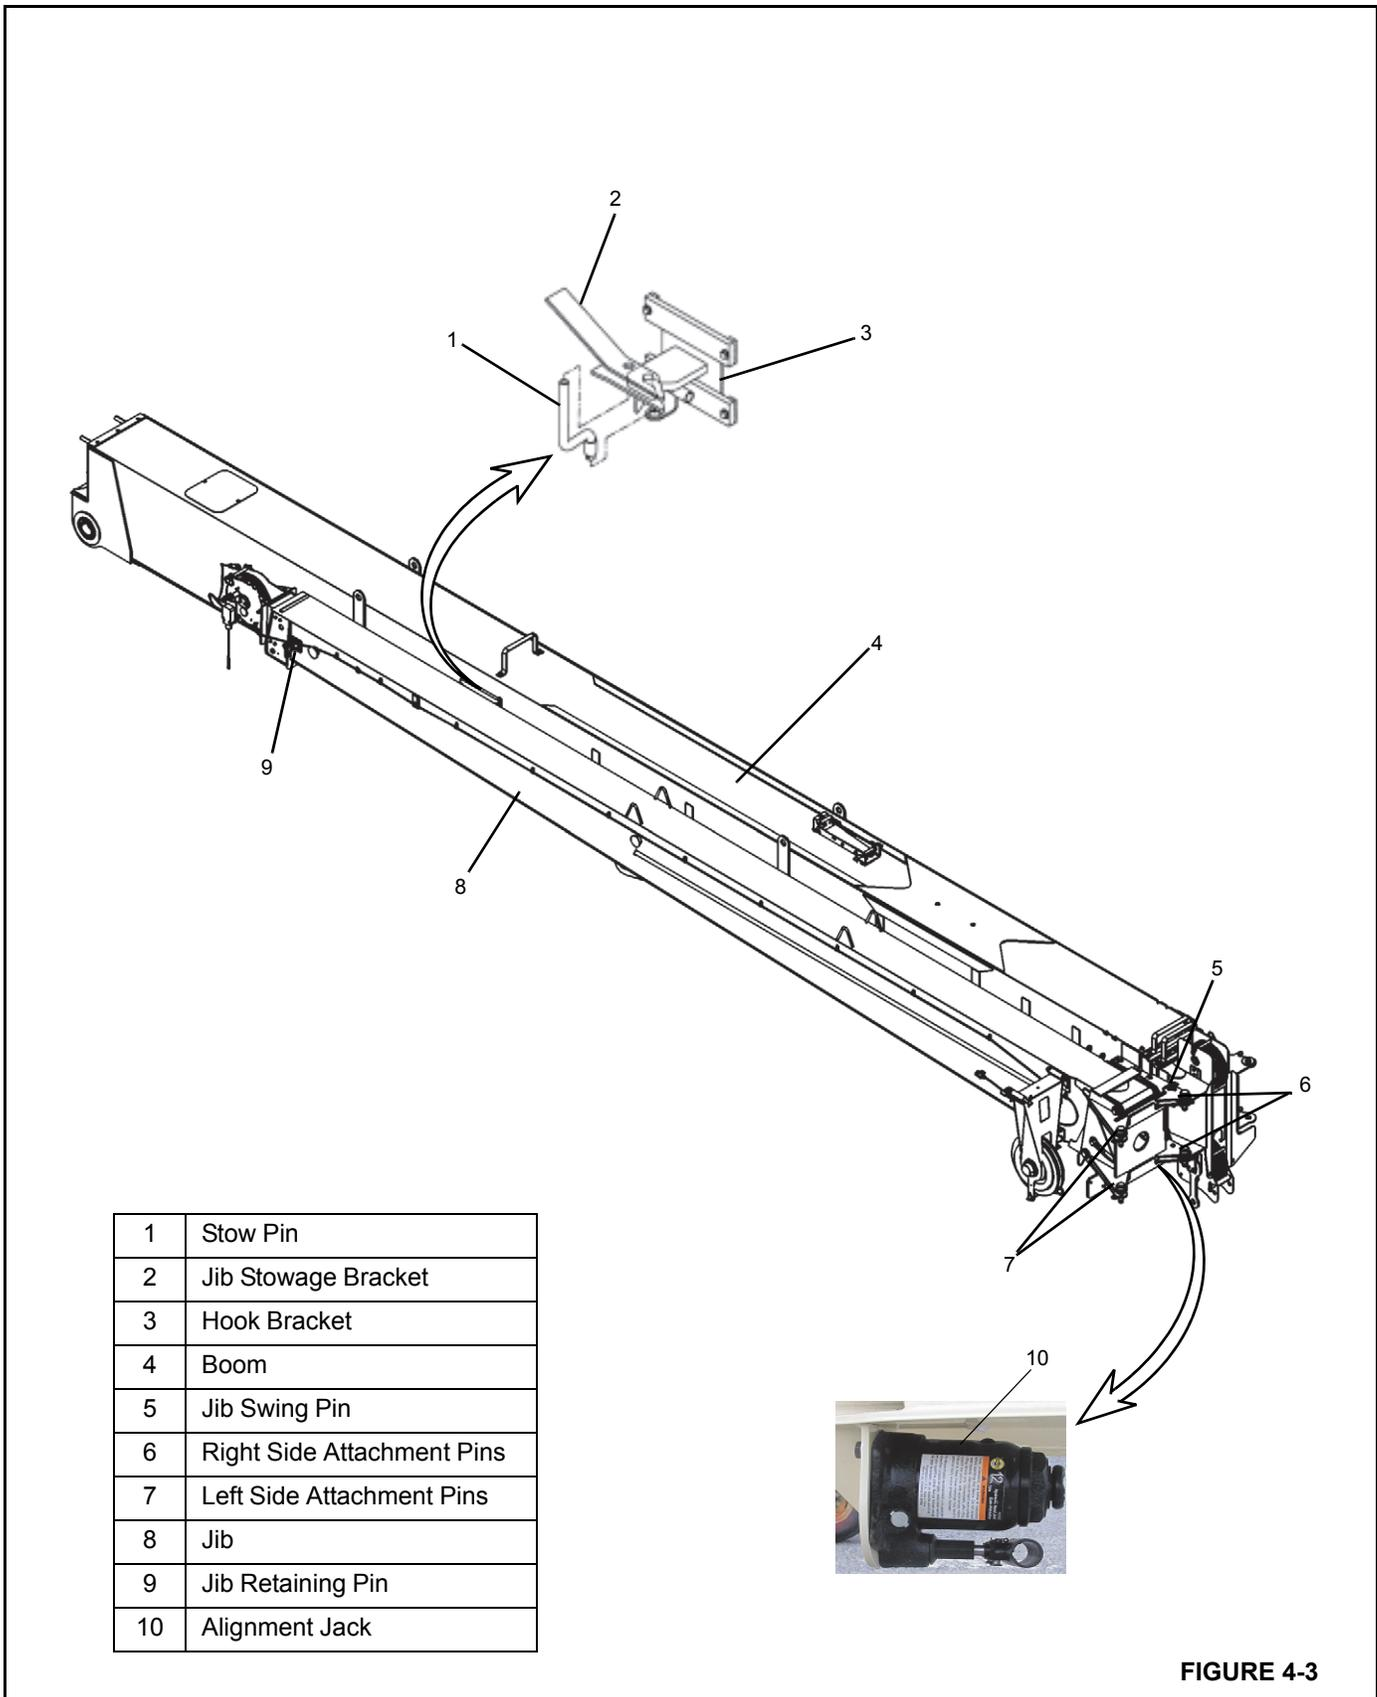
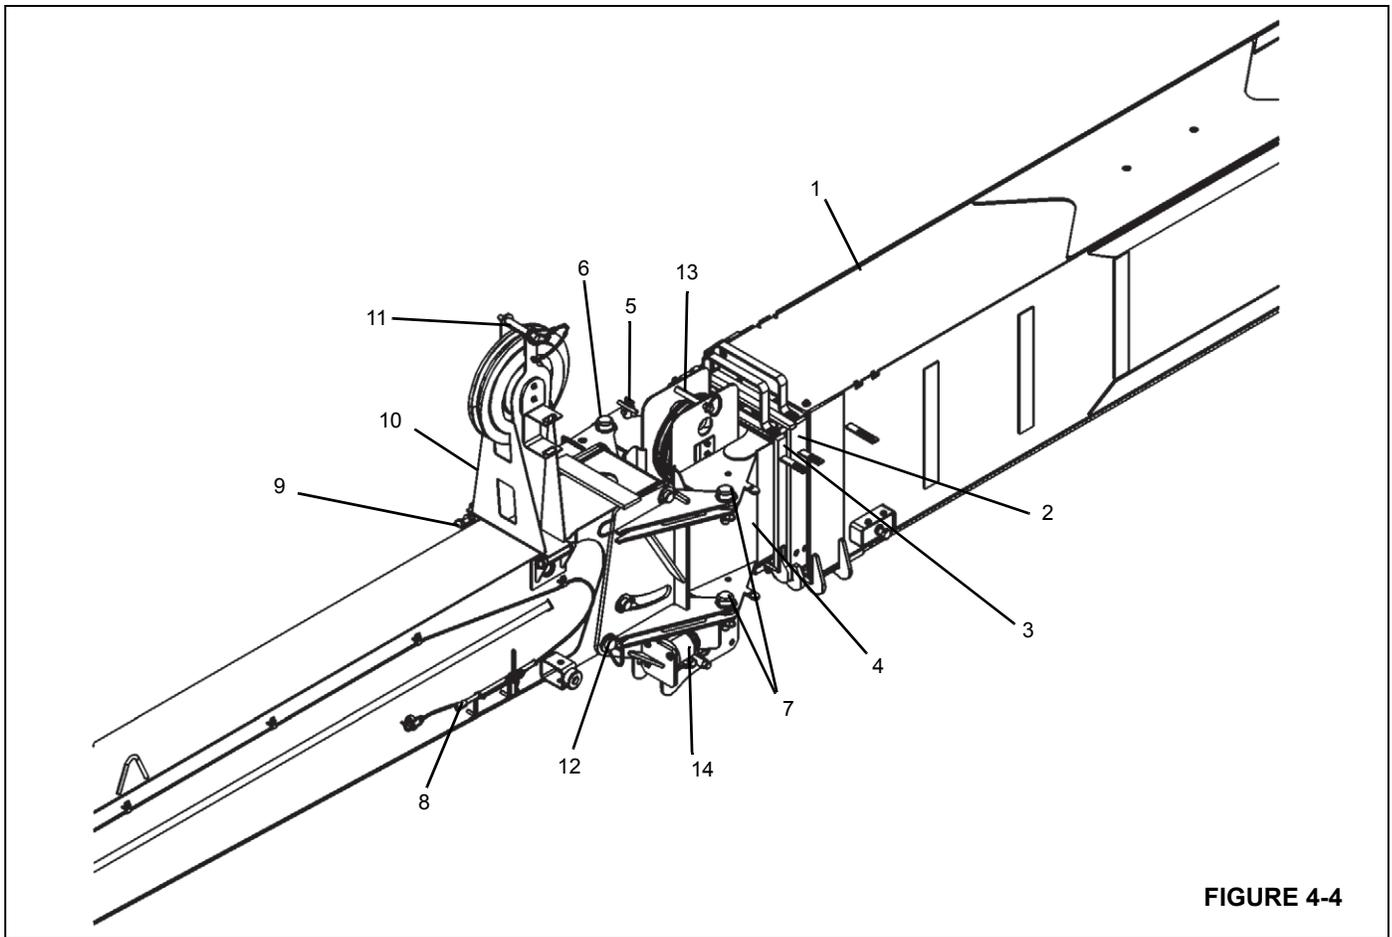

FIGURE 4-3
FIGURE 4-4
6. Ensure jib is stowed correctly (Figure 4-3):
- a. Removal of right side attachment pins (6), without proper installation of stow pin (1) and jib swing pin (5), may allow jib to fall off.
- b. Extending boom with jib stowed and failure to remove right side attachment pins (6), will damage unit upon extension.
7. Only swing jib into working or stowed position when boom is horizontal, stow pin (1, Figure 4-3) and jib swing pin (5) are removed and right side attachment pins (6) are in place. Jib could swing uncontrollably if boom is not horizontal.
12. Do not extend/retract boom unless boom is horizontal when stow pin (1, Figure 4-3) and jib swing pin (5) are removed during stowing or unstowing procedures.
1. Jib retaining pin (9, Figure 4-3) must always be installed when operating.
3. Extendable section may slide out of 1st section jib when jib retaining pin (9, Figure 4-3) is removed. Keep personnel clear of area.
2. Using lift function, lower boom so that attachment pins (6 and 7, Figure 4-3) are easily accessible from the ground.
4. Install right side attachment pins (6, Figure 4-3) in upper and lower jib lugs, secure with retainer spring clips. These pins are used as a pivot point to swing jib into the deployed position.
5. Locate the stowed position of attachment pins (7, Figure 4-3). If in jib attachment holes or boom sheave case jib holes, remove pins from storage location.
6. Remove jib swing pin (5, Figure 4-3) from top lug of jib.
7. Remove stow pin (1, Figure 4-3) and stow in hook bracket (3), secure with spring clip.
10. Using telescope function, slowly extend boom approximately 30 cm 12 in. This procedure will pull the jib out of the hook bracket (3, Figure 4-3).
12. Install upper left attachment pin (7, Figure 4-3) and spring clip. A slight hammer strike may be necessary to install pins. Always use proper eye protection during this step.
13. Use the alignment jack (10, Figure 4-3) to align lower left side attachment pin (7, Figure 4-3).
- a. Remove the jack handle (8, Figure 4-4) from the boom stowage bracket and check that the jack release valve is closed.
- b. Extend the alignment jack (10, Figure 4-3) so that the lower left pin holes (7, Figure 4-3) are aligned.
- c. Install the lower left side attachment pin (7, Figure 4-3) and spring clip.
- d. Open the jack release valve and retract the jack (10, Figure 4-3).
18. Install jib swing pin (5, Figure 4-3) and spring clip into jib lugs.
19. For manually extendable jib, pull jib retaining pin (9, Figure 4-3), and extend second section out by pulling on sheave case. The second section jib, as it extends, will hit a mechanical stop that allows for jib retaining pin (9, Figure 4-3) installation. Install pin (9) and spring clip.
- Both pins (6, Figure 4-3) in upper and lower jib holes properly in place through mating holes on boom tip.
1. Using lift function, lower boom so that side attachment pins (6 & 7, Figure 4-3) are easily accessible from the ground.
2. Two section jib - For manually extendable jibs, pull jib retaining pin (9, Figure 4-3) and fully retract extendable 2nd section into the tele 1. Retraction of 2nd section may be facilitated by attaching loadline wedge socket to jib nose. Slowly activate the hoist up function until the 2nd section is fully retracted.
3. Two section jib - Reinstall jib retaining pin (9, Figure 4-3) through the 1st and 2nd section jib assembly and install spring clip.
7. Remove spring clips from left side attachment pins (7, Figure 4-3 and Figure 4-4) on both upper and lower jib lugs.
8. Remove jib swing pin (5, Figure 4-3) from the boom nose.
9. Remove left side attachment pins (7, Figure 4-3 and Figure 4-4) from upper and lower jib lugs. Do not remove right side attachment pins (6) at this time. The right side attachment pins (6) will be used as a pivot point to swing jib into stowed position. A slight hammer strike may be necessary to remove pins.
12. Using tag line attached to jib sheave case, slowly swing jib into stowed position (parallel with tele 1 boom), the right side attachment pins (6, Figure 4-3) are the jib pivot points during this operation.
13. Install jib swing pin (5, Figure 4-3) with spring clip through jib lug and boom sheave case holes. This pin will keep the jib assembly in line (parallel) with the 1st section boom.